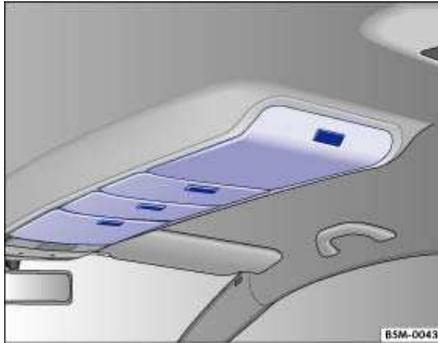

Fig. 74 Storage compartments in the roof console.
- To *open* press on the lid ⇒ Fig. 74. The lid opens automatically.